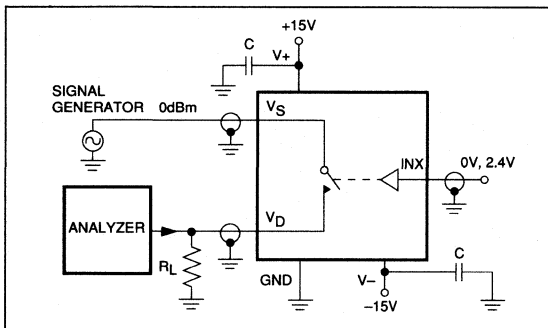

Figure 4. Off-Isolation Test Circuit
**Note 5:** See Figure 4. Off Isolation =  $20 \log_{10} V_O/V_S$ ,  $V_D$  = output,  $V_S$  = input to off switch.